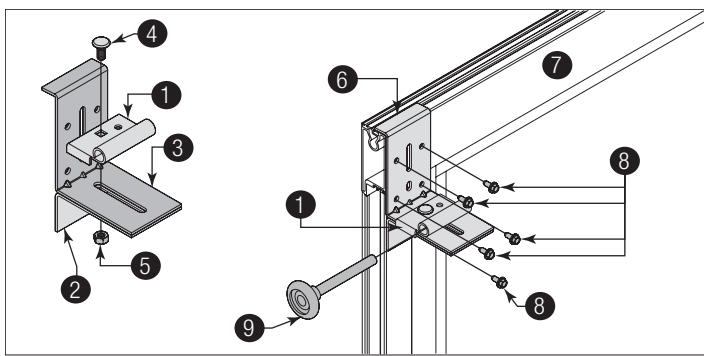
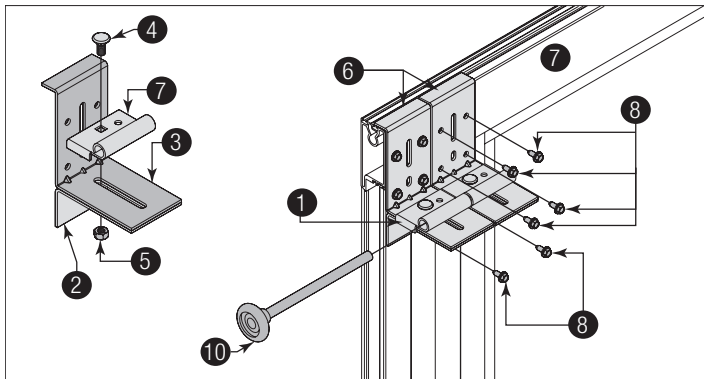

Figure 19, Left Side Shown
Figure 20, Left Side Shown
**See Figure 19 and Figure 20 for the following steps.**